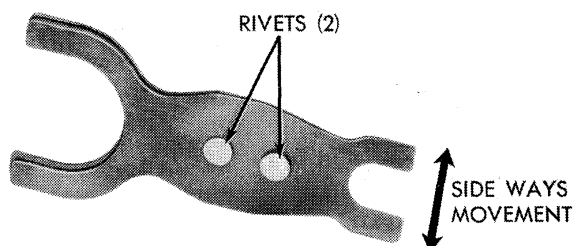

Fig. 29—Shifter Fork
(5) Complete installation of pinion shaft, engaging shifting fork with clutch actuators. Figures 29 and 30 show correct relation of parts at assembly. **The friction washer must be positioned on shoulder of splines of the pinion shaft before driven gear is positioned.**